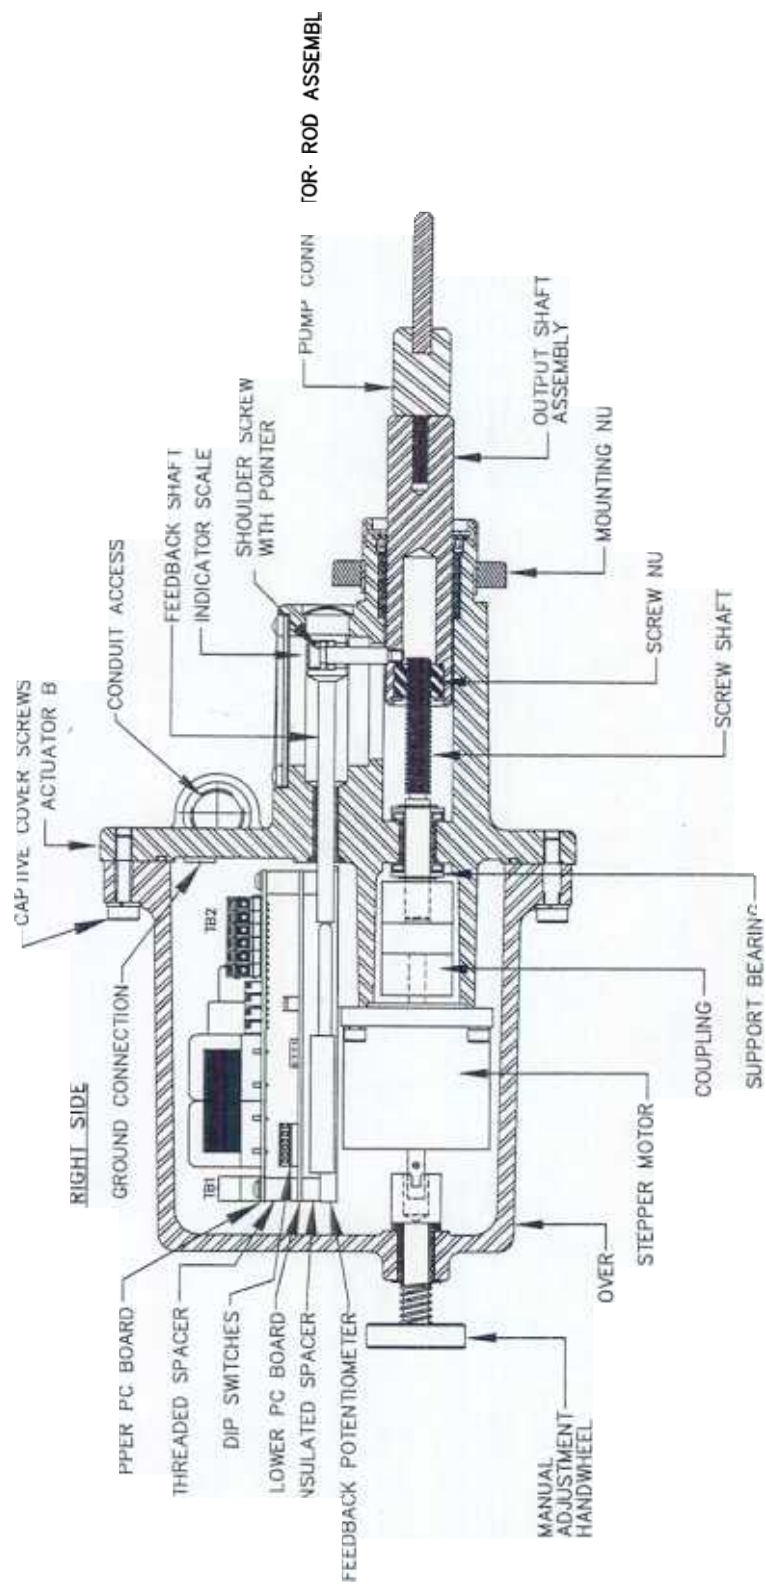

FIGURE 1. MAJOR COMPONENT IDENTIFICATION
3. Mechanical Stroke Control repairs may be made by purchaser. Refer to Figure 1 for parts identification. Order from Neptune Customer Service by description.